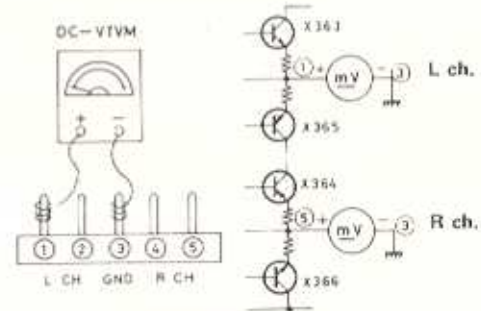

Fig. 20A
2. Connect ground lead of DC VTVM to pin 3 (pin 3) and connect probe of DC VTVM to pin 1 (pin 5). Refer to Fig. 20A.